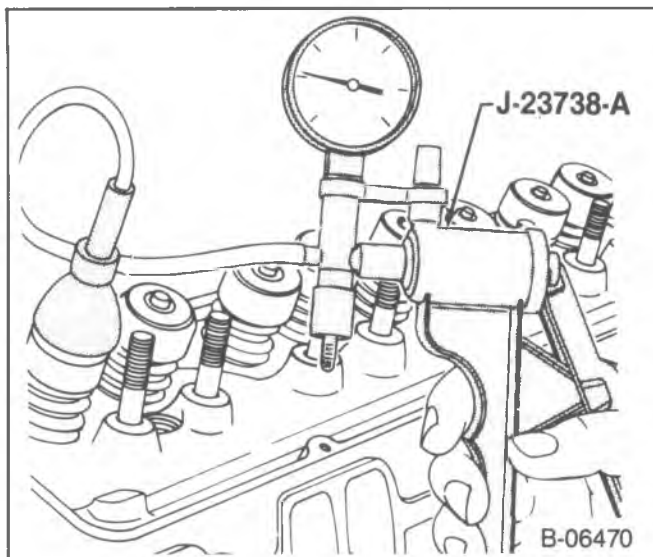

Figure 7—Testing The Valve Seals
- Check each o-ring seal for leakage (figure 7).